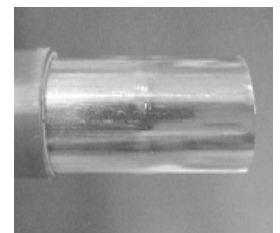

Figure 2
- 2) **Remove 2.5" of jacket & tape (for riser rated cables) using razor knife (Figure 2),** also remove the jacket strip blade.